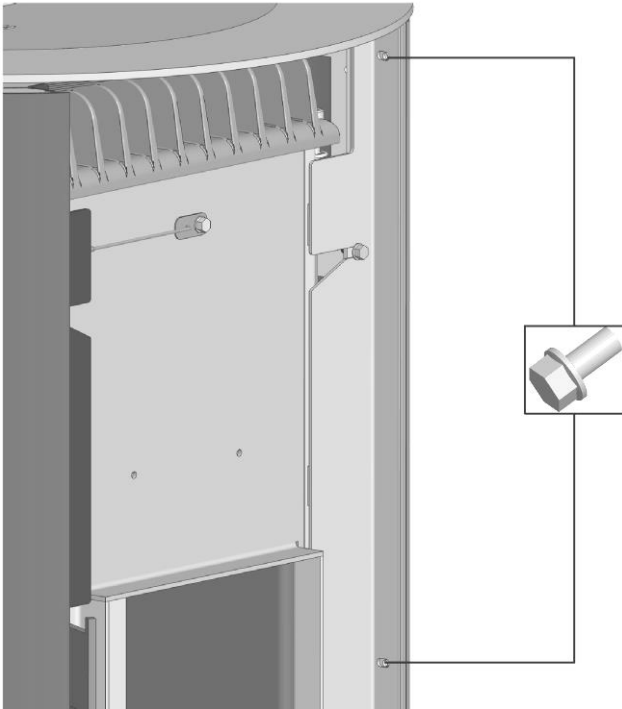
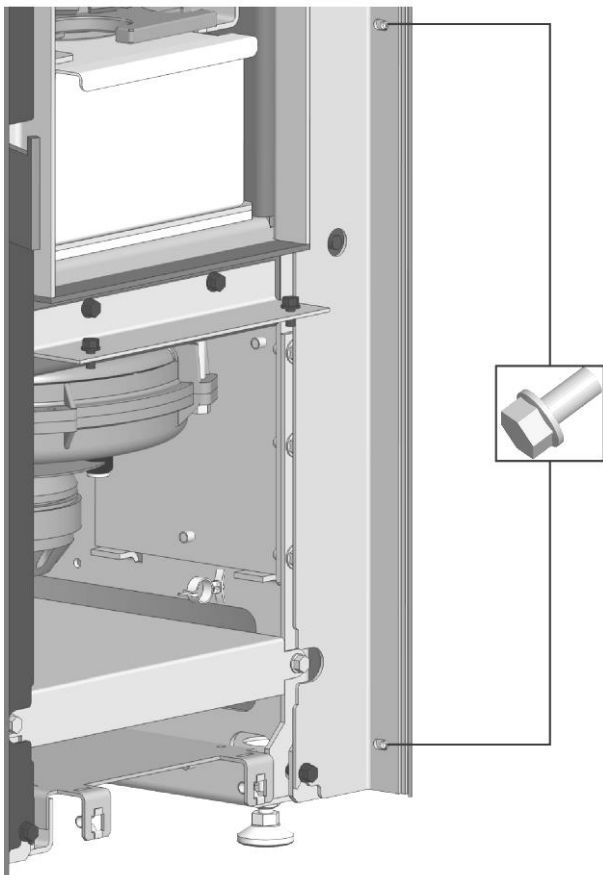

**Fig. 15: unscrew rear side screws**
**Fig. 16: remove bottom rear side screws**
4. Remove six screws on the rear side (see Fig. 15 and Fig. 16).